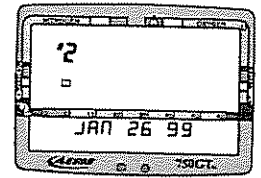

Fig. 73 - Log (first screen)
3. The first screen to appear (Fig. 73) will display the most recent dive recorded, identified by the Log Mode icon, the dive Number and dive Date.